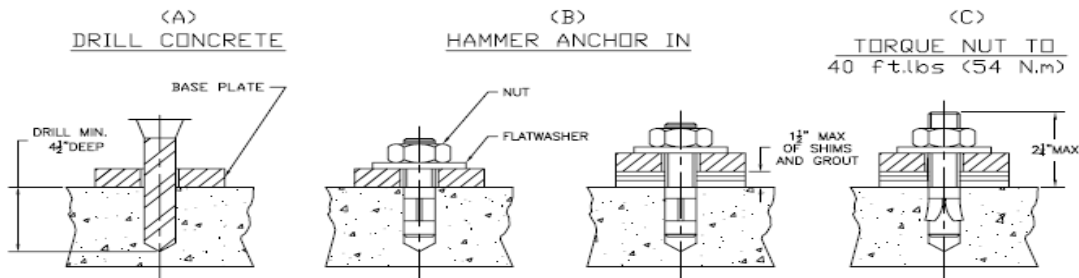

Figure 22 - Anchoring
3. Using a rotary hammer drill and a 1/2" concrete bit, drill through the floor at each of the six (6) anchor bolt locations on each of the base frames. Make sure that the 1/2" concrete drill bit is in good condition. Refer to **Figure 22**.